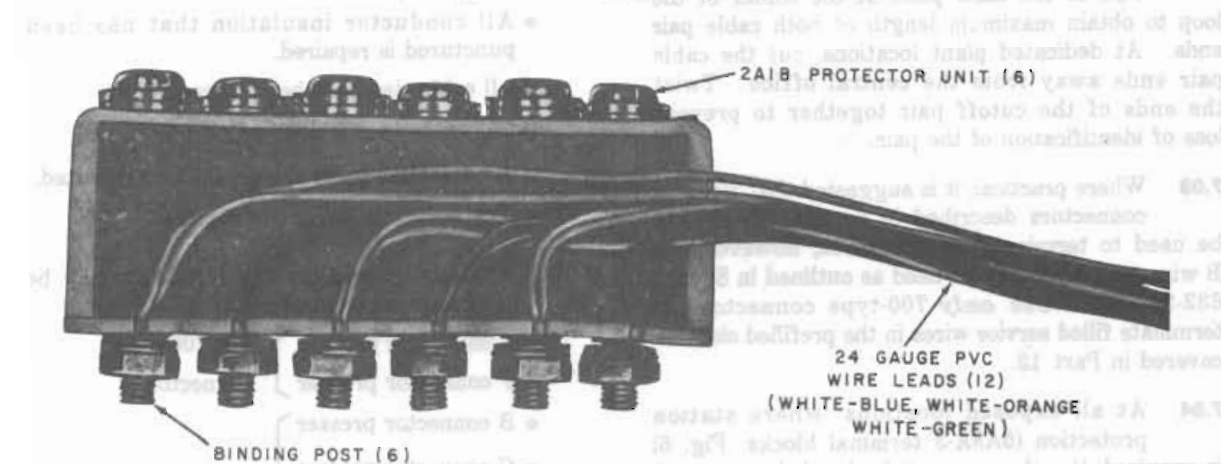

Fig. 7—6A4B-3 Terminal Block
- (b) **6A4B-3 Terminal Block (Fig. 7):** Used for 3-pair cable protection. Each terminal block will be marked "CABLE PROTECTION". The terminal block is equipped with twelve color coded (white-blue, white-orange, white-green) leads, two to each binding post and 2A1B protector unit. When using the terminal block, either join both wires from each binding post to the cable conductors or terminate the spare wire under the rear washers of the associated binding post and cut off the ends as short as possible.